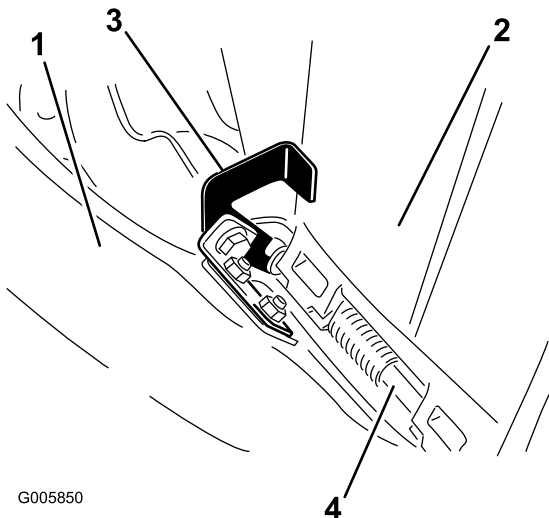

Figure 21
3. On the top of the chute, engage the hook shaped latch around pivot rod of the deflector assembly as shown in (Figure 21).